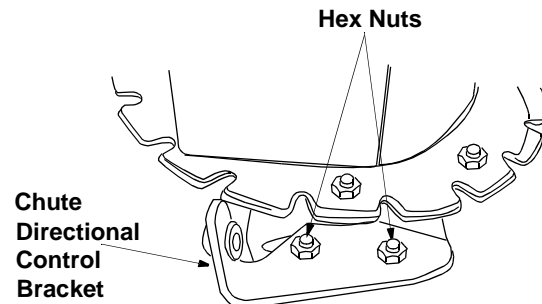

Figure 8
- Loosen the two hex nuts which secure the chute directional control bracket (see Figure 8) to the snow thrower housing.